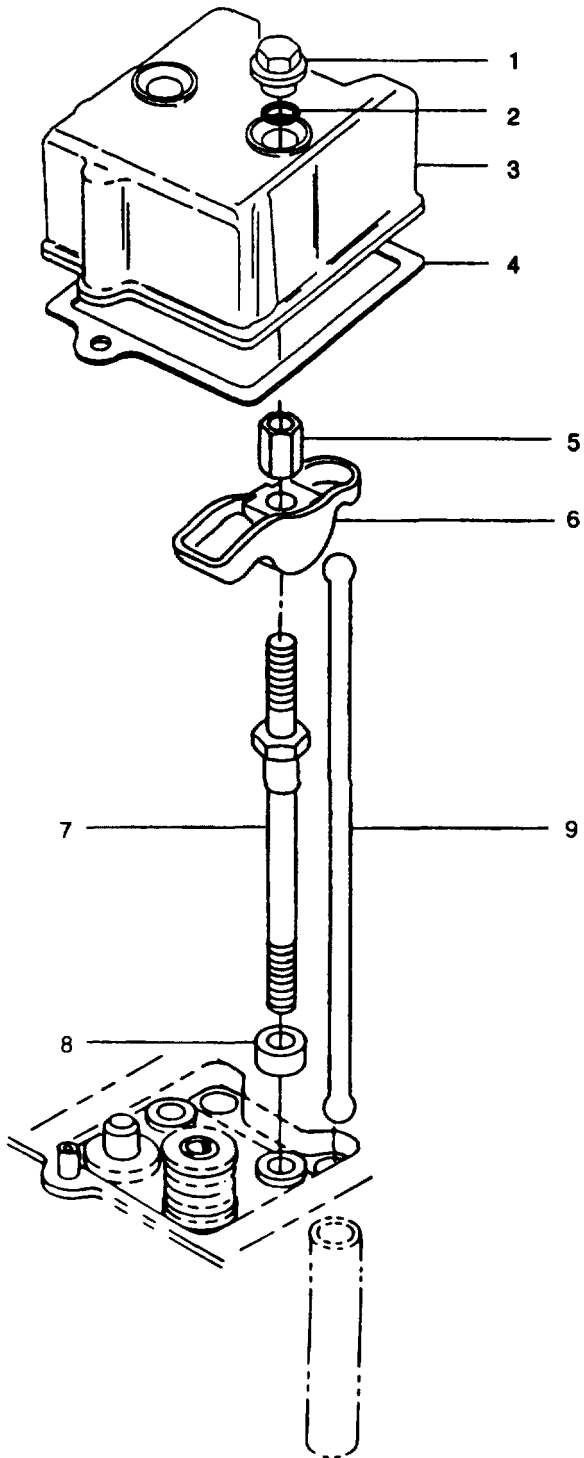

FIGURE 3-27. Cylinder Cover and Rocker Lever
3-25.1. Removal. Remove two nuts (1, FIGURE 3-27) and performed packings (2) securing each valve cover (3) to cylinder head; remove cover (3) and gasket (4). Discard gasket (4) and performed packings (2).
- a. Remove any traces of old gasket from cylinder head and valve covers (3, FIGURE 3-27) mating surfaces.
- c. Position each valve cover (3) with new gasket (4) on cylinder head and secure with two nuts (1) and new preformed packings (2). Tighten nuts (1) to 78 in-lbs (8.8 Nm).
- b. Remove nut (5, FIGURE 3-27) securing rocker lever (6) to cylinder head bolt (7); remove rocker lever.
- c. Remove pushrod (9).
- e. Do not remove cylinder head bolt (7) and spacer (8) unless damaged or cylinder head is being removed.
- a. Check pushrod (9, FIGURE 3-27) as follows:
- (1) Lay pushrod on a surface plate.
- (2) Roll pushrod along surface plate checking for curvature with a feeler gage. Normal reading should be 0.008 in. (0.2 mm) or less.
- (3) Inspect both ends of pushrod for excessive wear or damage. If excessive wear or damage is found, replace pushrod.
- a. Lightly oil pushrod (9, FIGURE 3-27) with engine lubricating oil (MIL-L-2104) and install it in cylinder head. Ensure pushrod does not interfere with cylinder head clearance hole.
- b. Lightly oil rocker lever (6) and install it on cylinder head bolt (7). Secure with nut (5) finger tight.
- c. Gradually tighten nut (5) until heel of rocker lever (6) makes contact with ball end of pushrod (9). Ensure rocker lever is centered over valve stem.
- h. Remove four bolts (3), four bolts (4), and eight washers (5). Refer to FIGURE 3-27 and remove eight bolts (7) and spacers (8).